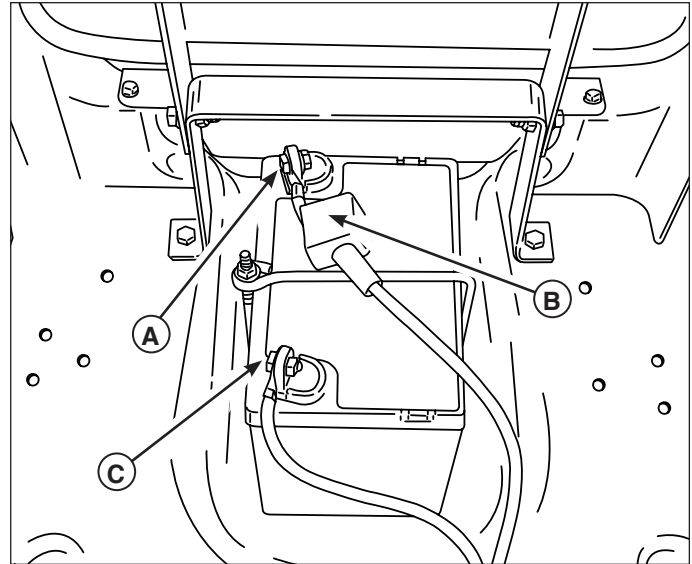

Figure 29. 230CCA Battery
1. Disconnect the cables from the battery, negative cable first (**C**, Figure 29).